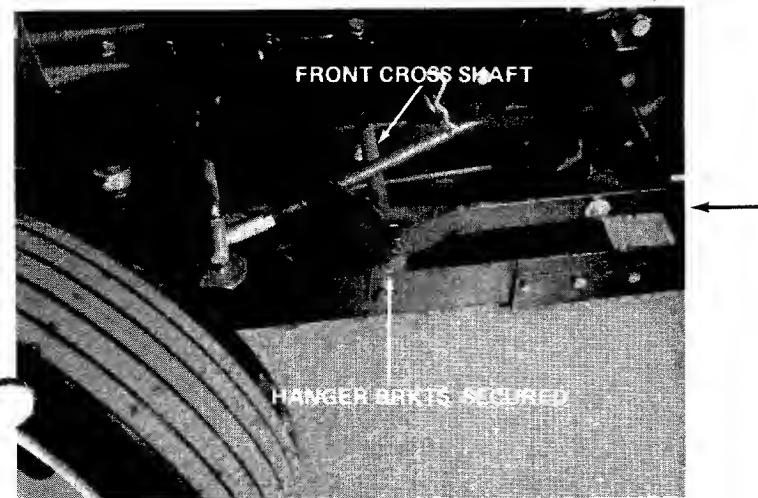

FIGURE 22
8. Lower tractor under carriage and install hanging brackets to front cross shaft. See figure 22. Put clevis pin through small hole on hanging brackets to secure brackets around cross shaft. Insert hair pin into hole in clevis pin..to hold pin in position.